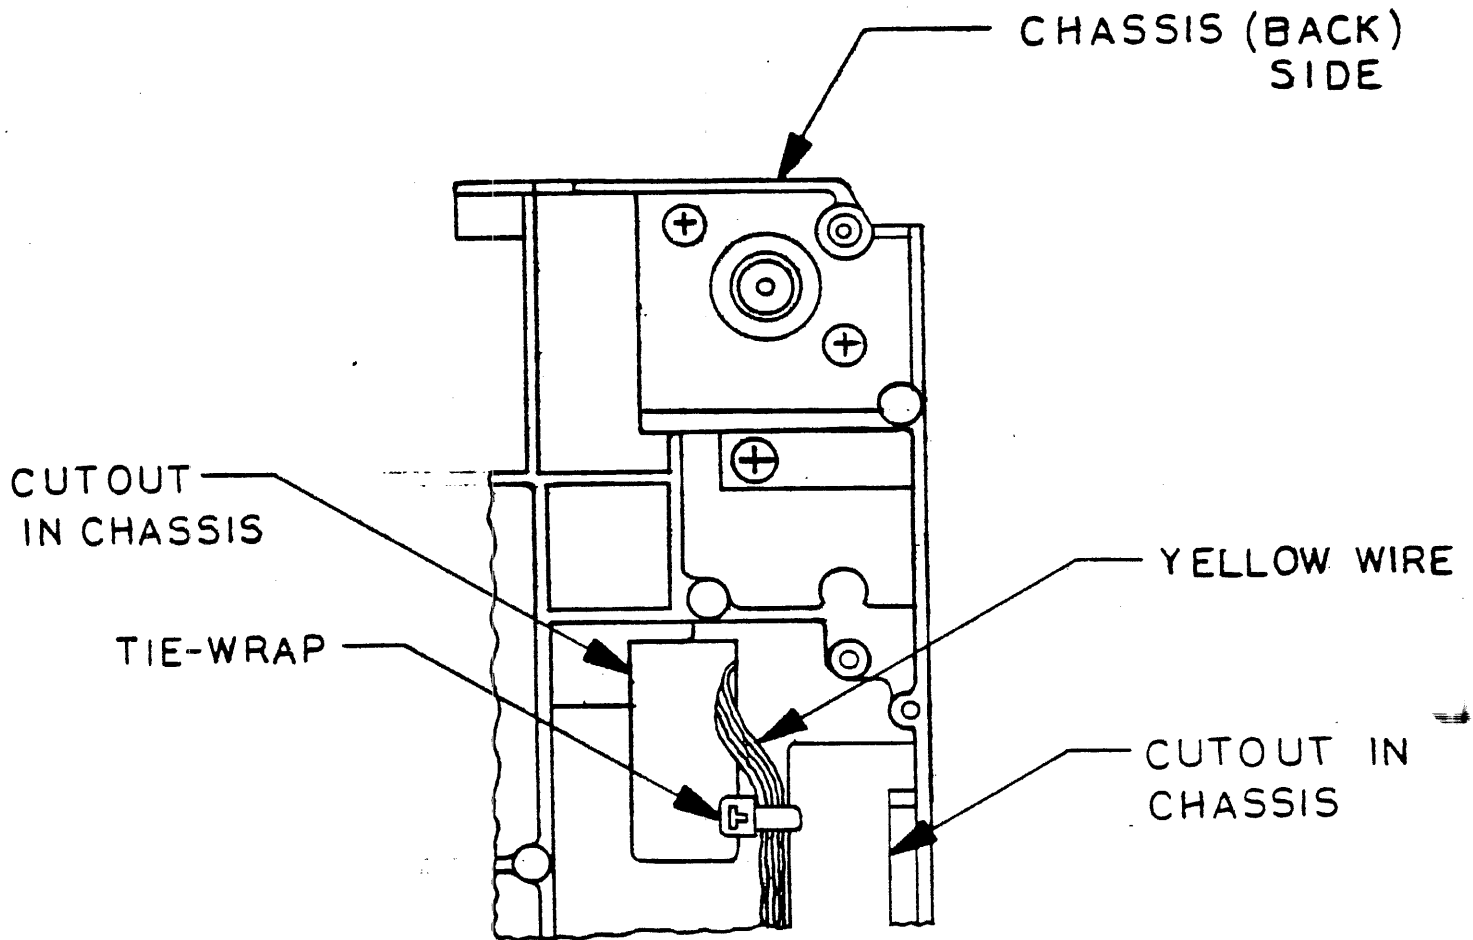

FIGURE 3. THE TIE-WRAPPING OF THE DUAL SWITCH WIRING HARNESS. (BOTTOM VIEW)
- 7.1.2 Place the wires near the base of the switch bracket and down through the rectangular cut-out in the chassis in front of the switch. Using a tie-wrap gun set at 5.5, tie-wrap the wires to the rib between the rectangular cut-outs, so that the wires run along the bottom of the rib. Be sure the yellow wire is closest to the chassis wall, (when the wire harness is viewed from the bottom-side of the chassis.) (See Fig. 3.)